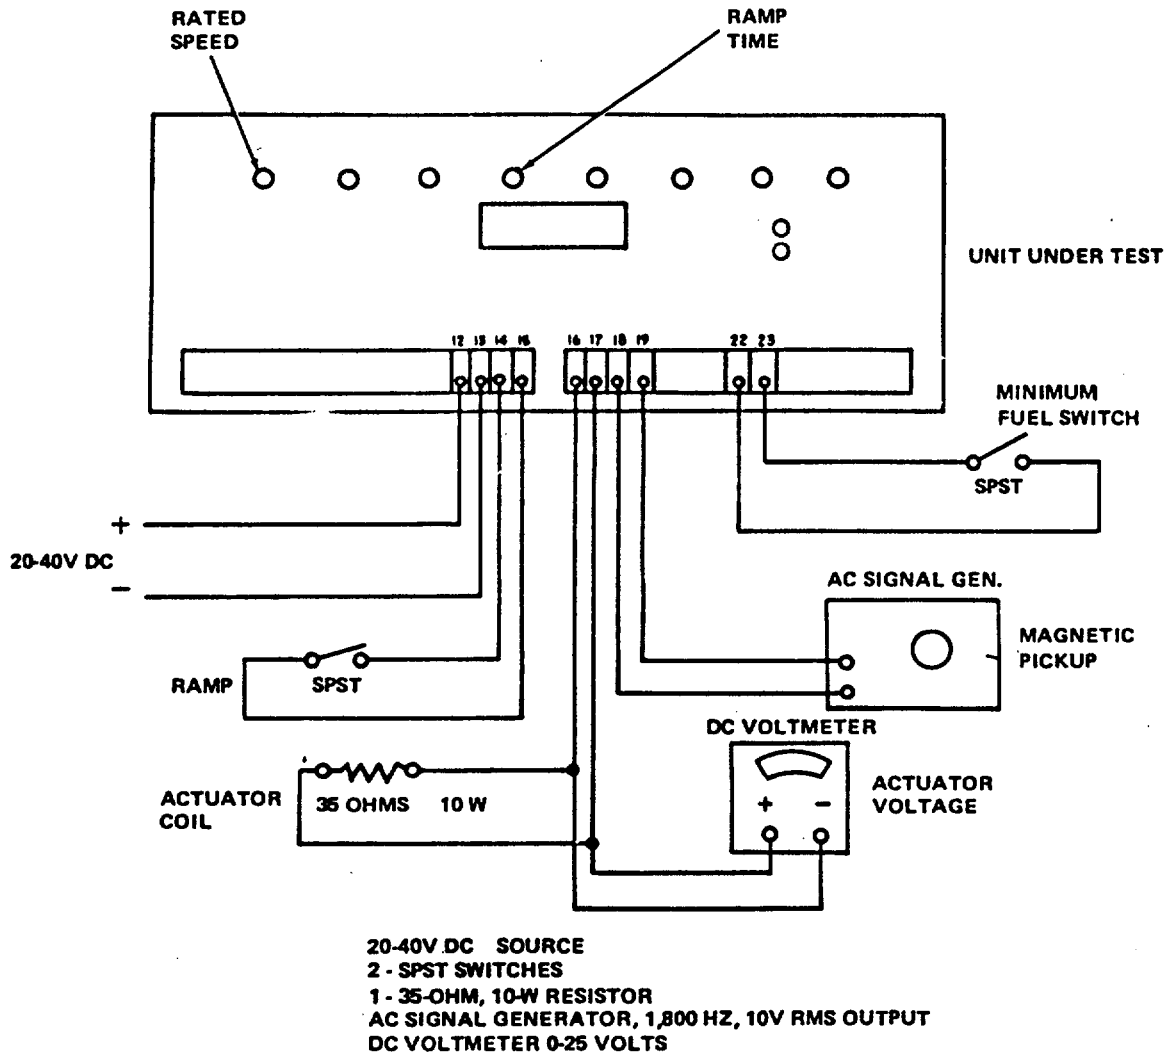

Figure 4-5. Governor A106, Test Setup
- a. Make the following connections to the governor A106 terminal boards (see figure 4-5).
- (1) Connect 20 to 40V DC source to 12(+) and 13(-)